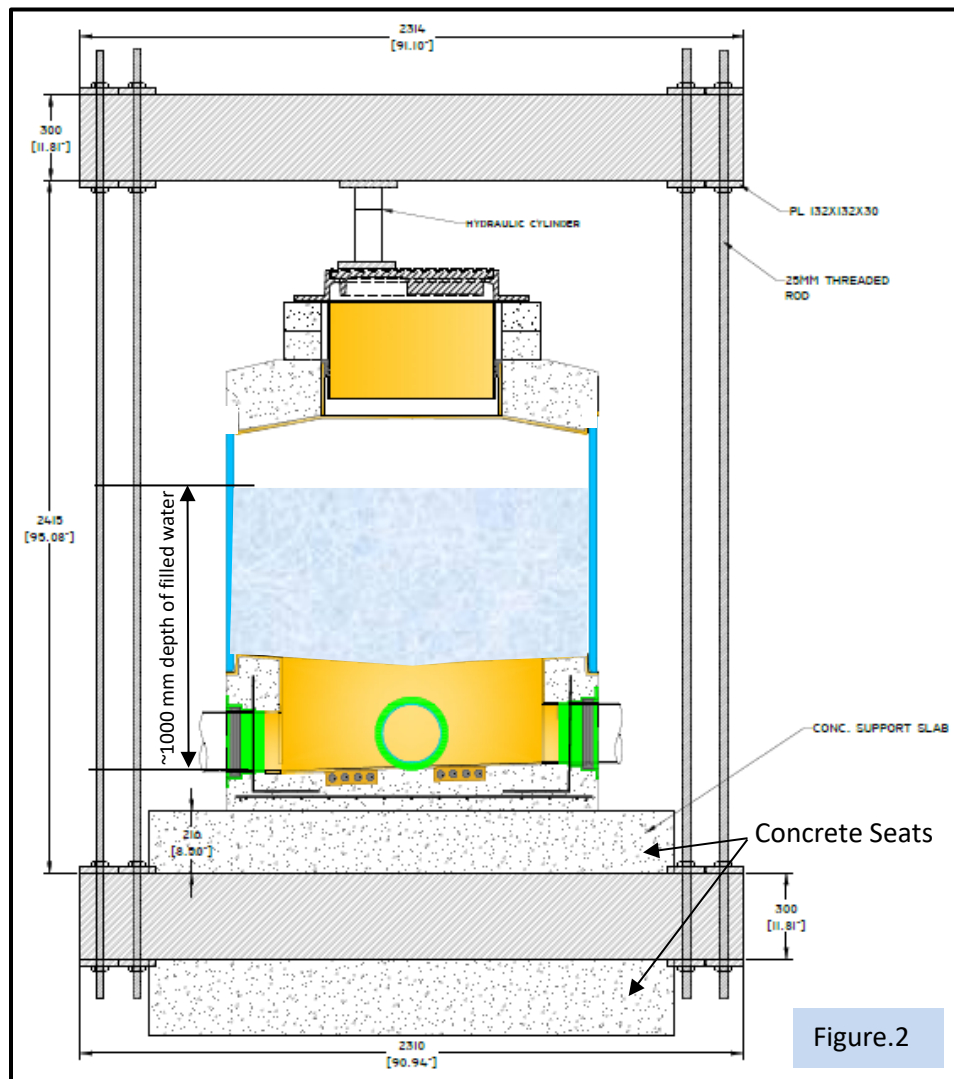

Figure.2
- Metro applied the loads using the prefabricated steel bridges. The test load was applied eccentrically (See figure.2)